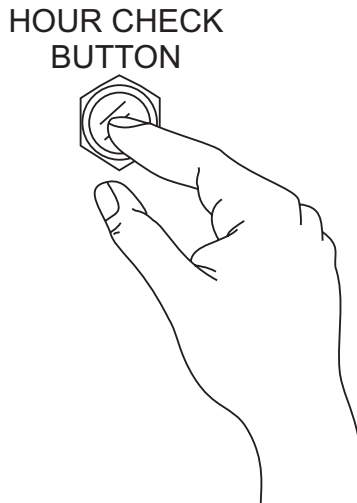

Figure 90. Hour Check Button
1. With the engine stopped (**OFF**), push and hold the **Hour Check Button** (Figure 90) located on the control panel.